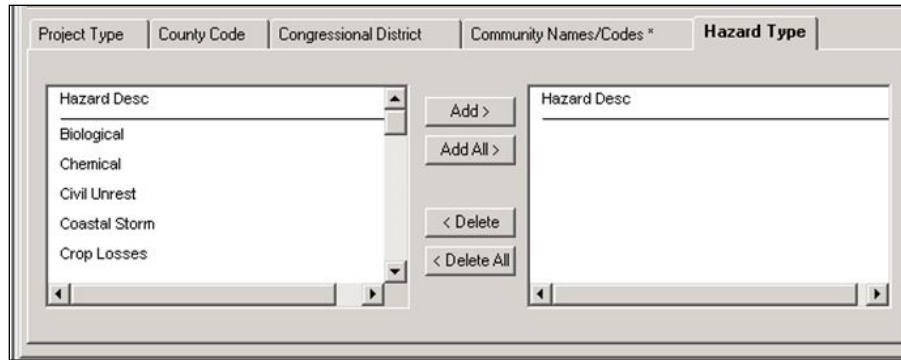

Figure 6-38: Mitigation > Projects > Application Development > Project Info > Hazard Type Sub-tab
14. Click the **Hazard Type** sub-tab (Figure 6-38).